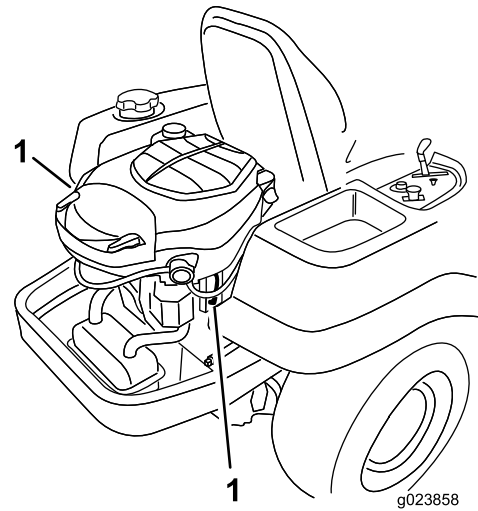

Figure 32
Pull the wire off of the spark plug(s) (Figure 32).
3. Push the wire onto the spark plug (Figure 32).